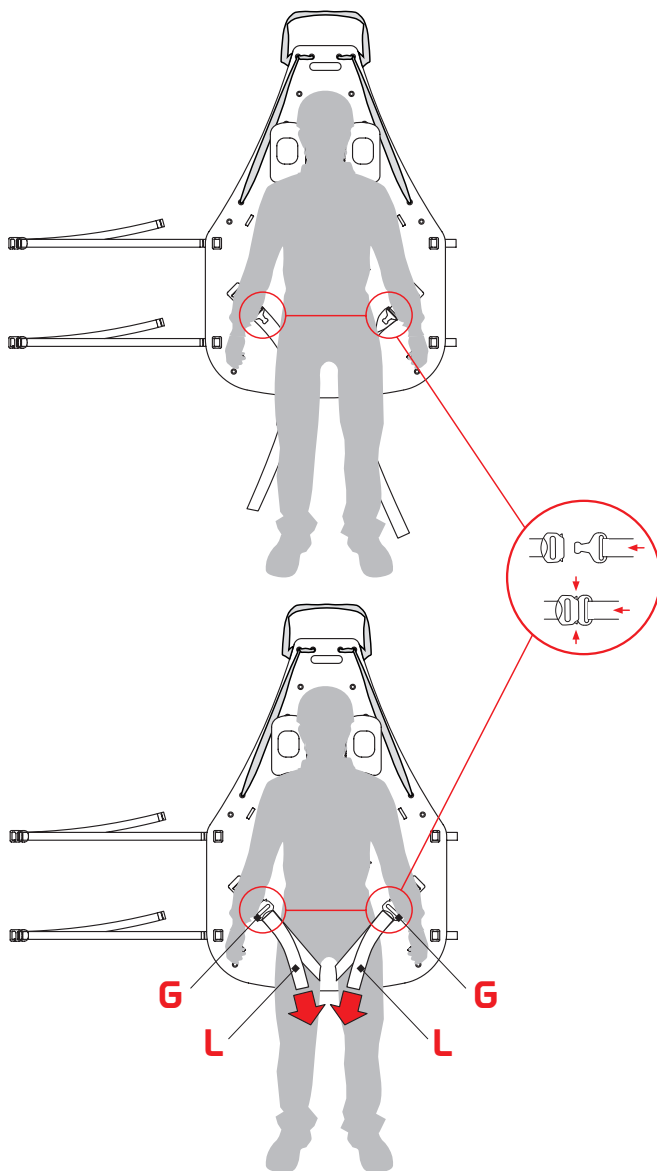

Fig.15
- Release the automatic buckles (G) and tension the thigh straps (L) - (fig. 15),